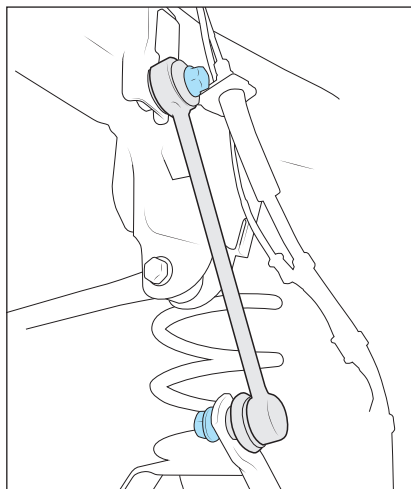

Figure 5
7. Remove sway bar endlinks and discard upper and lower mounting hardware (fig. 5).